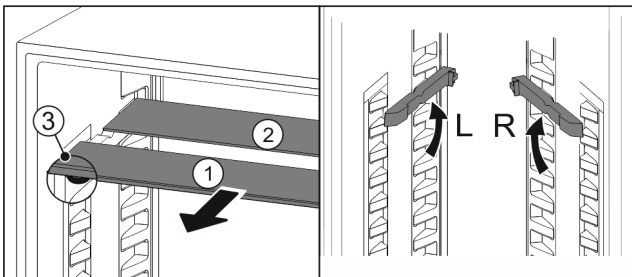

Fig. 80
- ▶ Pull the glass panels out Fig. 80 (1) from the front, one at a time.
- ▶ The glass panel Fig. 80 (1) and trim strip are at the front.
- ▶ The stops Fig. 80 (3) point down.